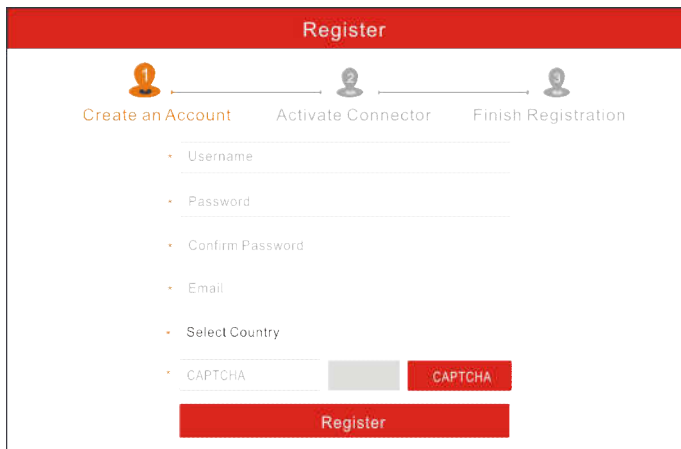

Fig. 4-3
**A.** If you are a new user, tap “New Registration” to enter registration page. See Fig. 4-3.
In Fig. 4-3, fill in the information in each field (Items with \* must be filled). After inputting, tap “Register”, a screen similar to the following will appear: